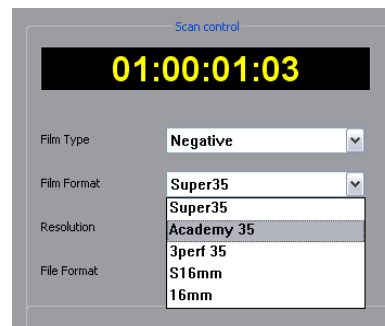

Fig 42 Film Format Selection
4. Lace Feed sprocket. In a similar way to the take-up sprocket (See Fig 42)